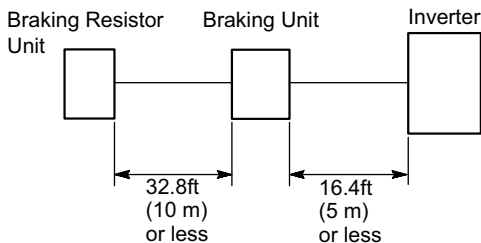

Fig. 13 Wiring Distance
(3) Wiring Distance
- Wiring distance between the braking resistor unit and braking unit or braking unit and inverter must be provided as shown in Fig. 13. Make sure to bundle the wires between the units.